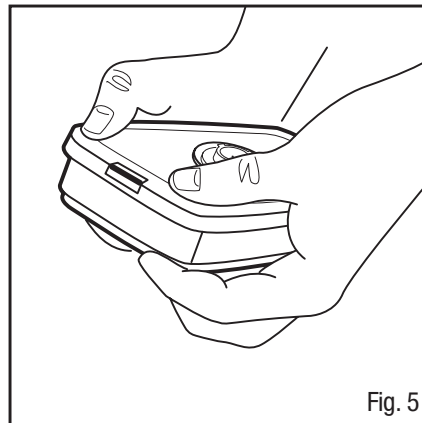

Fig. 5
2. Engage back snap by squeezing backside of cartridge and adapter together using the same hand positions. An audible click should be heard as each snap is engaged (Fig. 5).